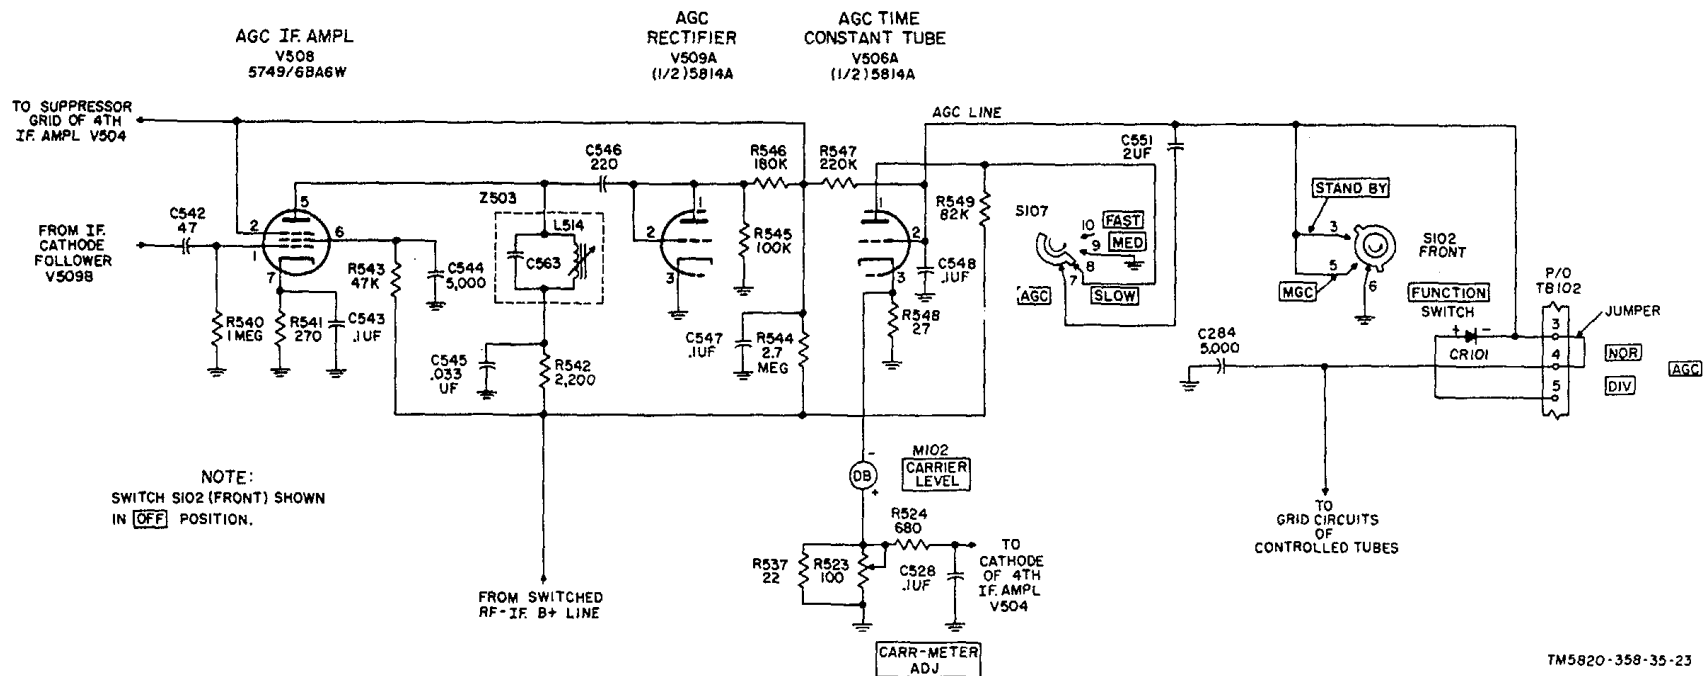

Figure 21. Agc circuit, simplified schematic diagram.
21. Automatic Gain Control Circuit (fig. 21)
- (2) MED. In the MED (medium) position, the age line is influenced by the same rc combinations as in the FAST position, plus the additional capacitance of C551 in parallel with C548 through 'AGC switch S107, terminals 7 and 9.
- (3) SLOW. In the SLOW position, the time required by the agc line to follow the fading signal is maximum. This is often useful for holding the receiver gain constant with on-off keying, which would otherwise raise the noise level between characters. In the SLOW position, the rc combination used in the FAST position is used, plus the time constant produced by capacitor C551 connected to the plate of agc time constant tube V506A rather than to ground as in the MED position. The time constant in the SLOW position is approximately 16 times that achieved in the MED position. As the agc bias at the control grid of V506A goes more negative, the voltage drop across plate resistor R549 decreases and the plate voltage of V506A rises. At this point, capacitor C551 begins to charge to the level of the agc voltage, as referenced to the B+ level at the plate of V506A. As this charging advances, the plate voltage of V506A continues to rise, and C551 continues charging to the new plate voltage level. This bootstrap action continues until the grid of tube V506A reaches the level of voltage at the junction of R546 and R547. The rate of discharge of C551 is also retarded in the same way since it must discharge through V506A.
d. Diversity Circuit. When two receivers are used in a diversity reception system, the jumper on TB102 (fig. 21), normally connected between terminals 3